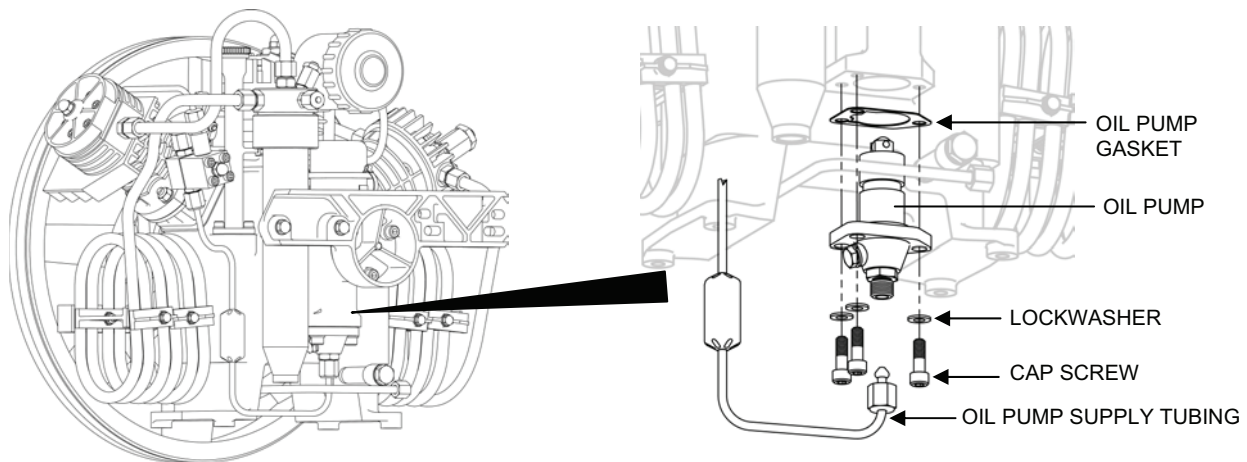

Figure 7. Oil Pump Replacement.
3. Remove the oil pump as follows (see Figure 7):